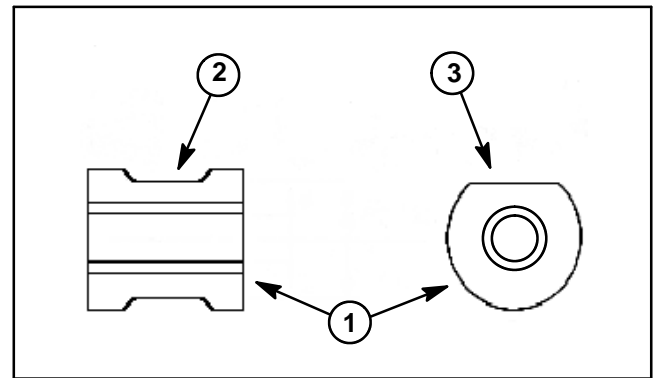

Figure 14
5. Check the rollers in the spider assembly for binding or wear (Fig. 14). If binding or uneven wear is found, replace clutch assembly.